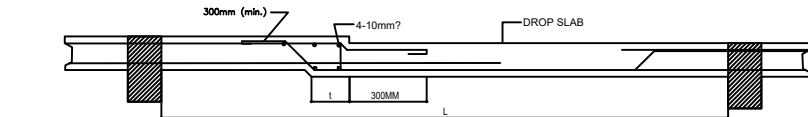

FIG. 2. TYPICAL DETAIL OF DROP SLAB
- F. WHENEVER REQUIRED, DROP SLAB SHALL BE ADDITIONALLY REINFORCED AS SHOWN IN FIGURE 2.